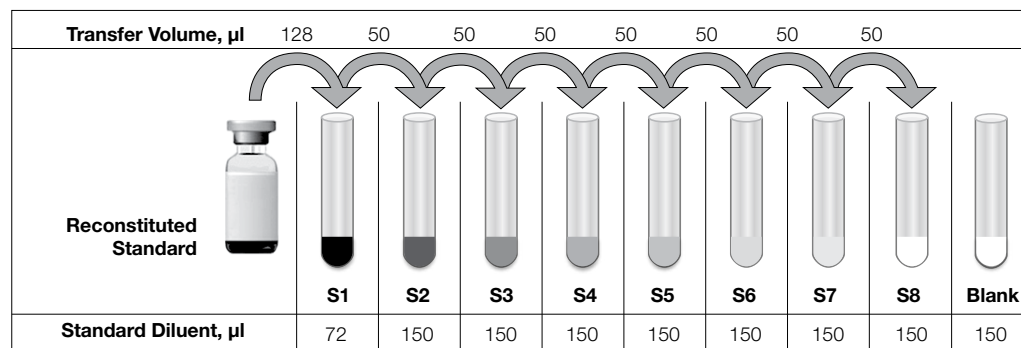

Fig. 3. Preparing a fourfold dilution series of rat cytokine standards.
6. Add the specified volume of standard diluent to each tube (Figure 3).
9. Continue with 1:4 (fourfold) serial dilutions from tube S2 to S8 as shown in Figure 3. Use reconstituted and diluted standards immediately. Do not freeze for future use.